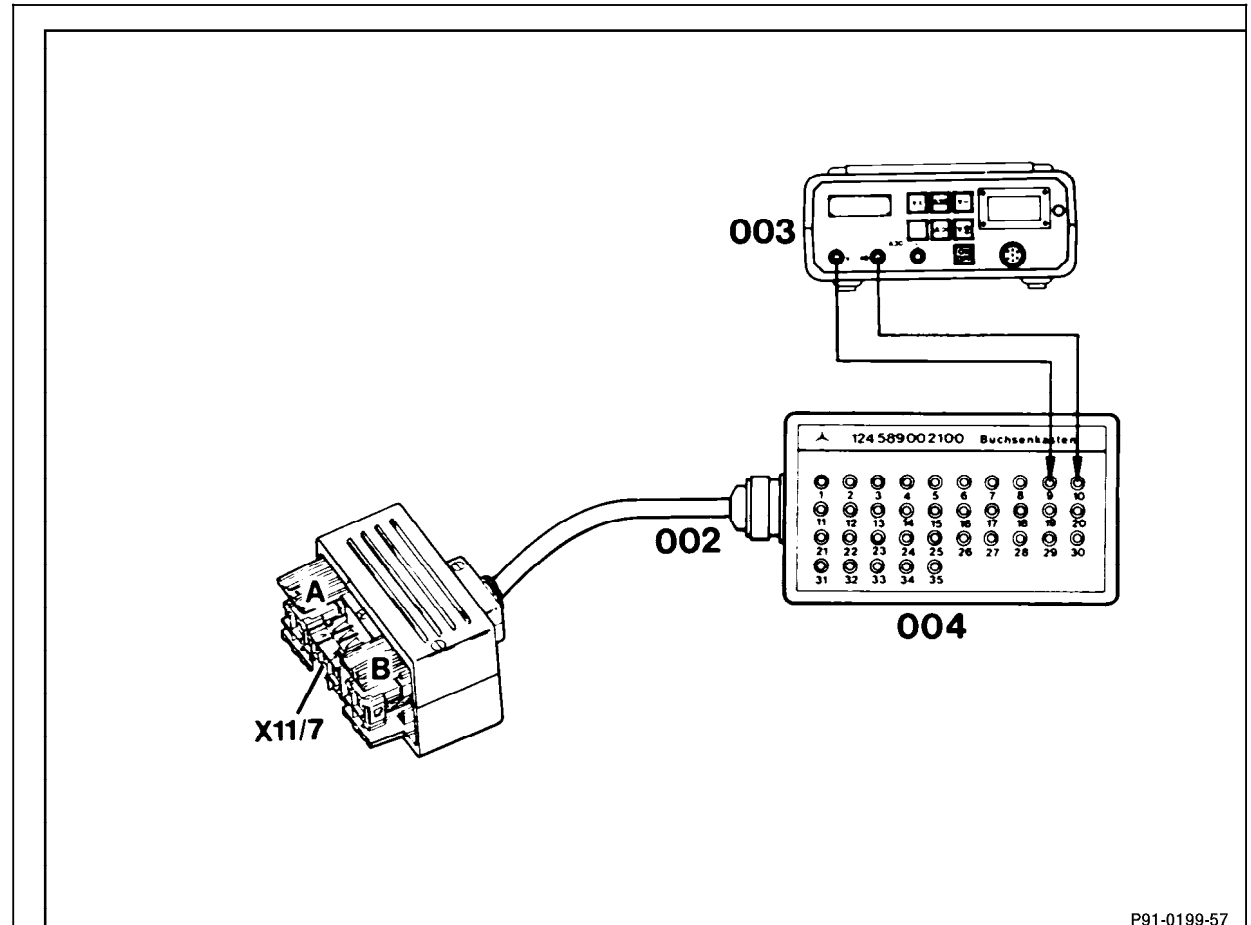

Figure 1
2. Expose and disconnect test connection, ETR (X11/7) in the front passenger legroom (figure 1, 24).
3. Connect socket box with test wiring harness according to connection diagram (figure 1, 23).